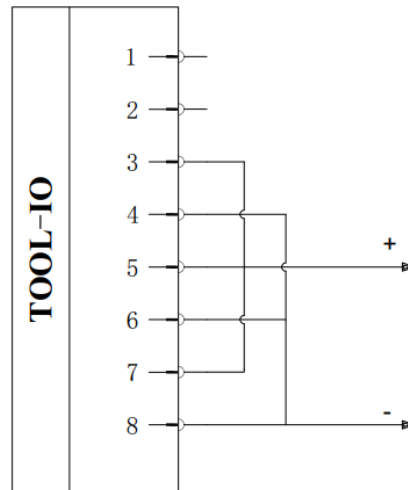

Figure 2-36 : Three pin power mode
2. Wiring method: as shown in **Figure 2-36**, connect the power cable (5 gray) with TI1/TO1/PWR1 cable (7 blue) and TI3/TO3/PWR2 cable (3 green), and the grounding cable (8 red) with TI0/TO0/GND1 cable (6 pink) and TI2/TO2/GND2 cable (4 yellow).